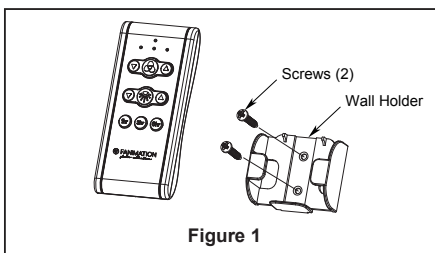

Figure 1
- ☐ 1. Installing Wall Holder: (Figure 1)